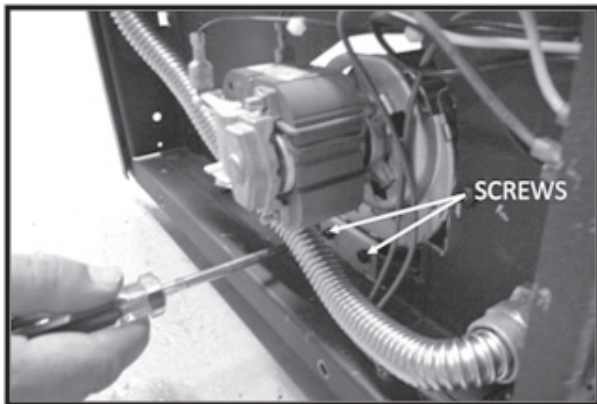

Figure 36: Fan install-removal.
3. Remove the two (2) screws from the panel (Figure 36) and pull the fan out of unit. You will have to disconnect the wires from the fan before you can remove it completely.
2. Insert both screws into the fan access panel to attach the fan to the unit (Figure 36).